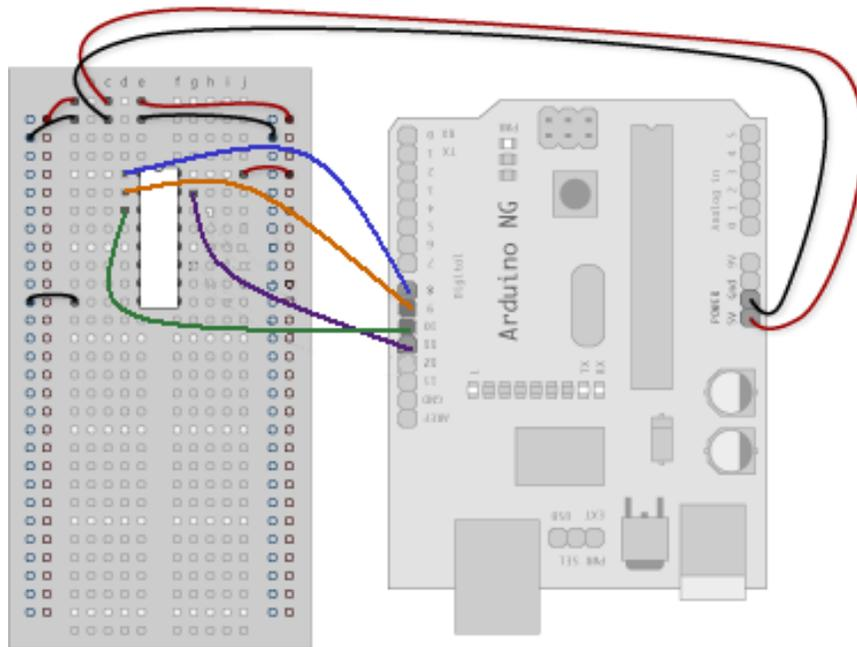
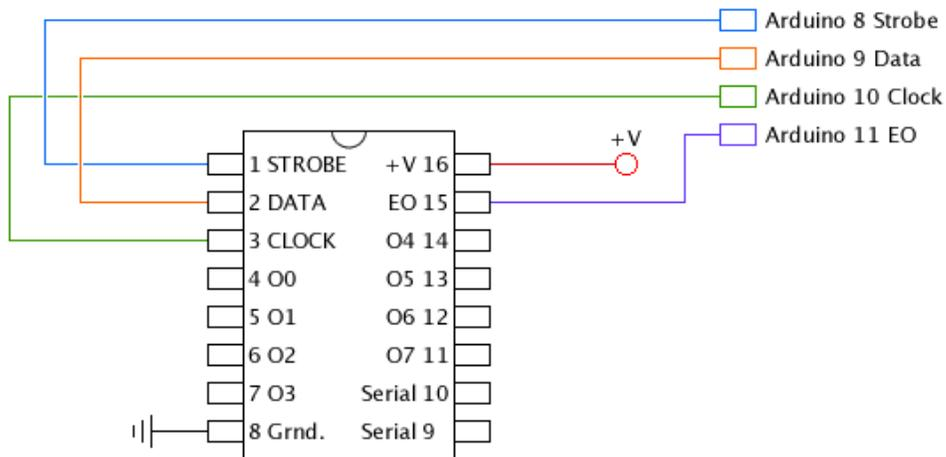

Figure 3.1-2: Schematic containing HEF4974B shift register and added connections to Arduino.
Figure 3.1-3: Pin-out of HEF4794B shift register
Next connections to the Arduino Leonardo need to be made. The strobe input (STR) is pin 1 on the HEF4794B. Pin 1 should be connected to Arduino DigitalPin 8. The data input (D) is pin 2 on the shift register and is wired to Arduino DigitalPin 9. The clock input (CP) is pin 3 and is attached to Arduino DigitalPin 10. Finally the output enable (EO) is pin 15 and is connected to Arduino DigitalPin 11. Figure 3.1-2 is a schematic containing connections made and Figure 3.1-3 is a pin-out of the HEF4794B shift register. These connections are also noted in the Arduino code, which will be discussed later.